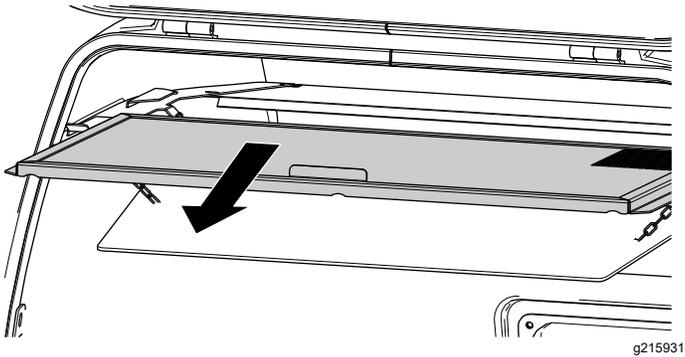

Figure 113
3. Remove the hopper screen and clean it (Figure 113).